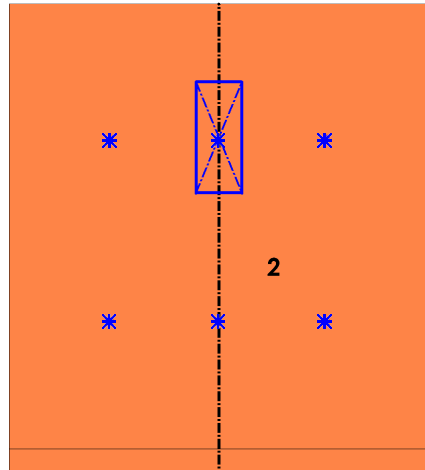
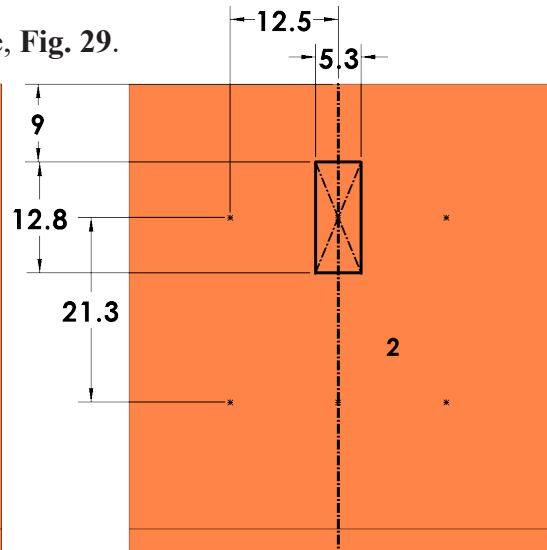

Fig. 29
Fig. 30
Step 15. Sketch center rectangle at first point on centerline, **Fig. 29**.
Step 16. Click **Smart Dimension**  (S) on the Sketch toolbar.
Step 17. Add dimensions, **Fig. 30**.